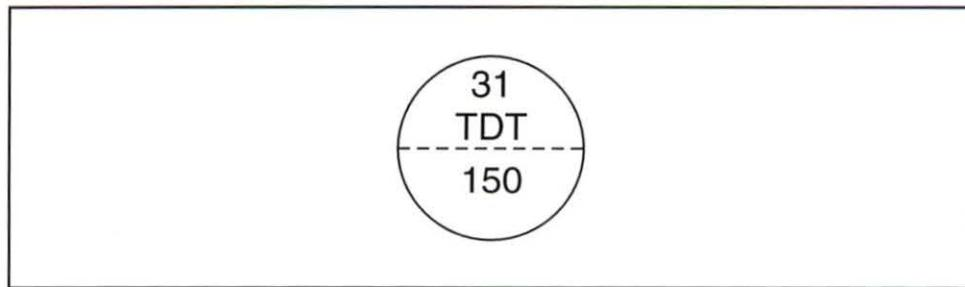

Figure 84. Instrument Tag
10. Perform the following substeps to interpret the information on the instrument tag in figure 84.
- A. Determine the type of device indicated by the tag in figure 84.
- B. Determine where the device is located, according to the tag in figure 84.
- D. Determine what the device is measuring, according to the tag in figure 84.
- E. Determine the loop in which the device is located, according to the tag in figure 84.
- F. Determine the area in which the device is located, according to the tag in figure 84.
- G. Determine the second and third modifiers of the device tag in figure 84.